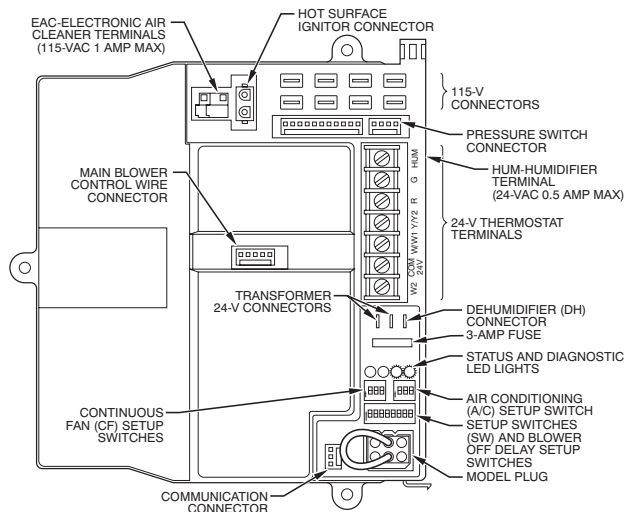

**Fig. 65 - Furnace Control for Variable-Speed Condensing Furnace (HK42FZ012)**
- Turn Setup Switch SW1-2 on furnace control ON. (see Fig. 65.)